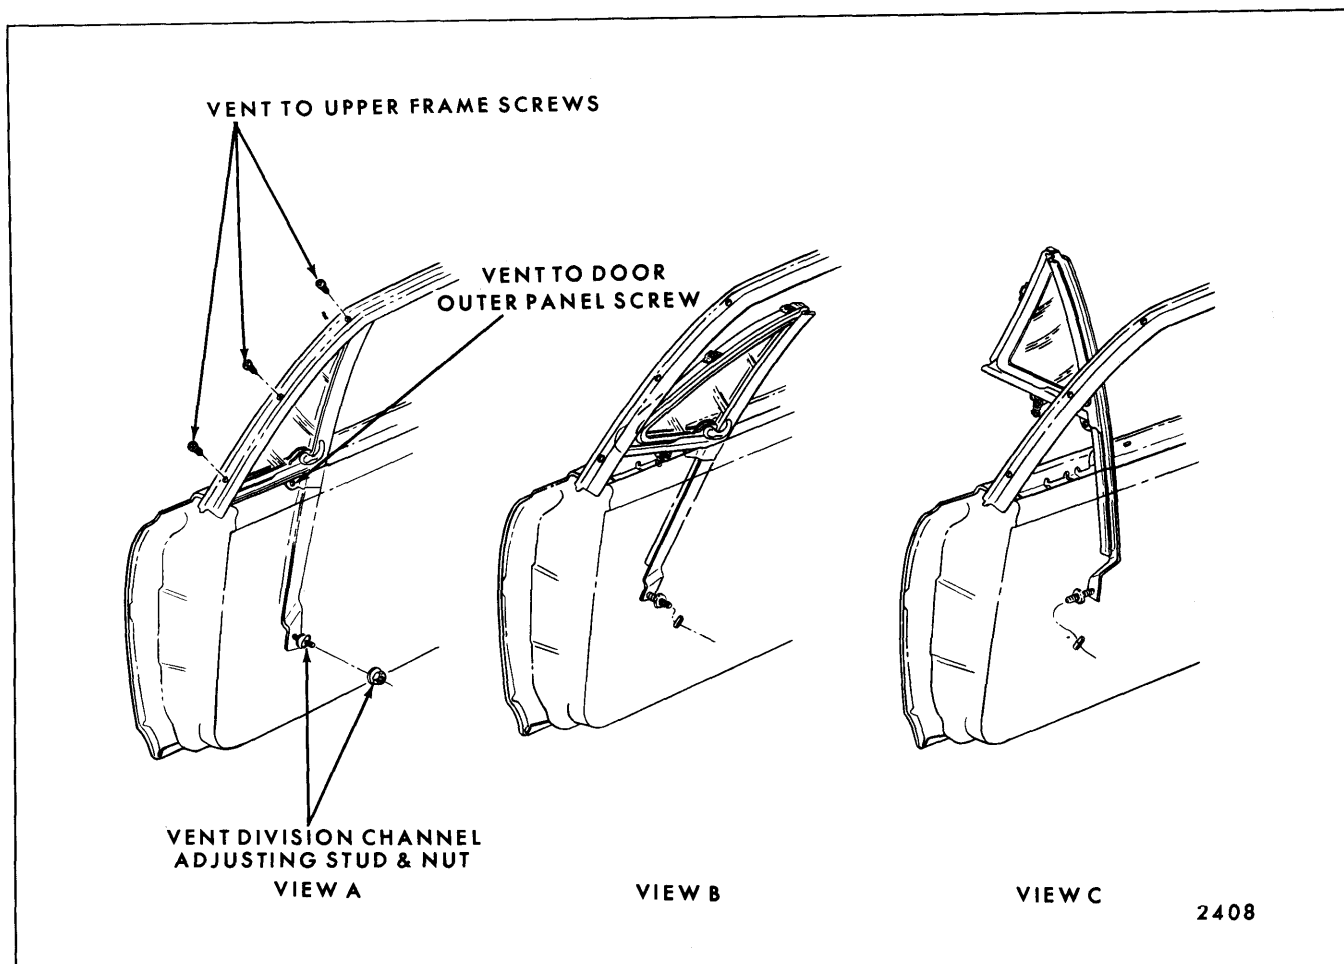

Fig. 6-63—Front Door Ventilator Removal
3. Remove ventilator division channel lower adjusting stud nut and ventilator to door outer panel attaching screw (View "A" in Fig. 6-63).
4. Remove ventilator to door upper frame attaching screws (View "A" in Fig. 6-63).
5. Lift ventilator rearward and upward until lower forward corner of assembly is free of door upper frame (View "B" in Fig. 6-63).
6. Rotate ventilator assembly in an outboard movement and remove unit outboard of door upper frame (View "C" in Figure 6-63).